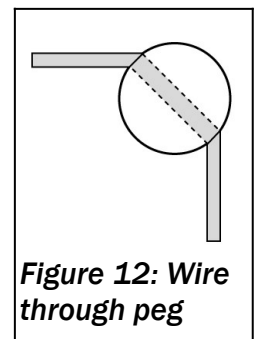

Figure 12: Wire through peg
- ✓ I recommend orienting the peg so the wire makes two 45° turns, as seen in Figure 12. This makes it a bit easier to move the wire through a corner hole if adjustments are needed while wiring the antenna.